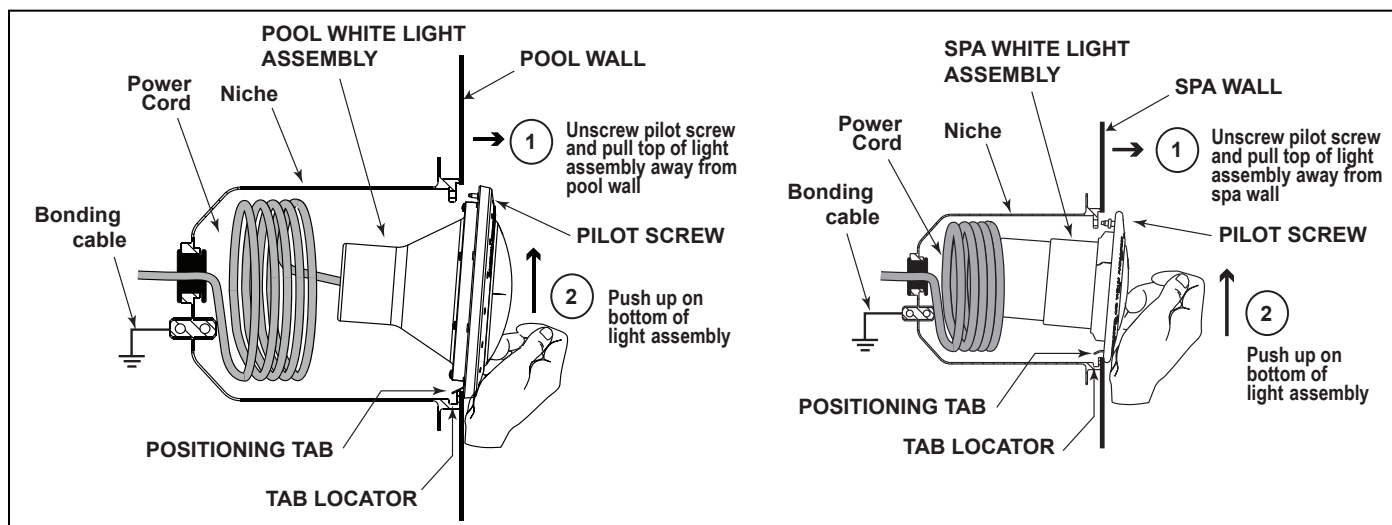

Figure 7. Removing the Pool and Spa White Light Assembly for Lamp Replacement
- One (1) new lamp. See Table 1 for specifications.
- To remove the light assembly, unscrew the special pilot screw at the top of the face ring, remove light assembly from niche and gently place assembly on the deck. It is not necessary to drain down the pool or spa. See Figure 7.